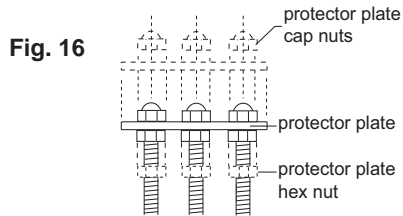

Fig. 16
- Remove the cap nuts, protector plate and protector plate hex nuts. (Fig. 16)